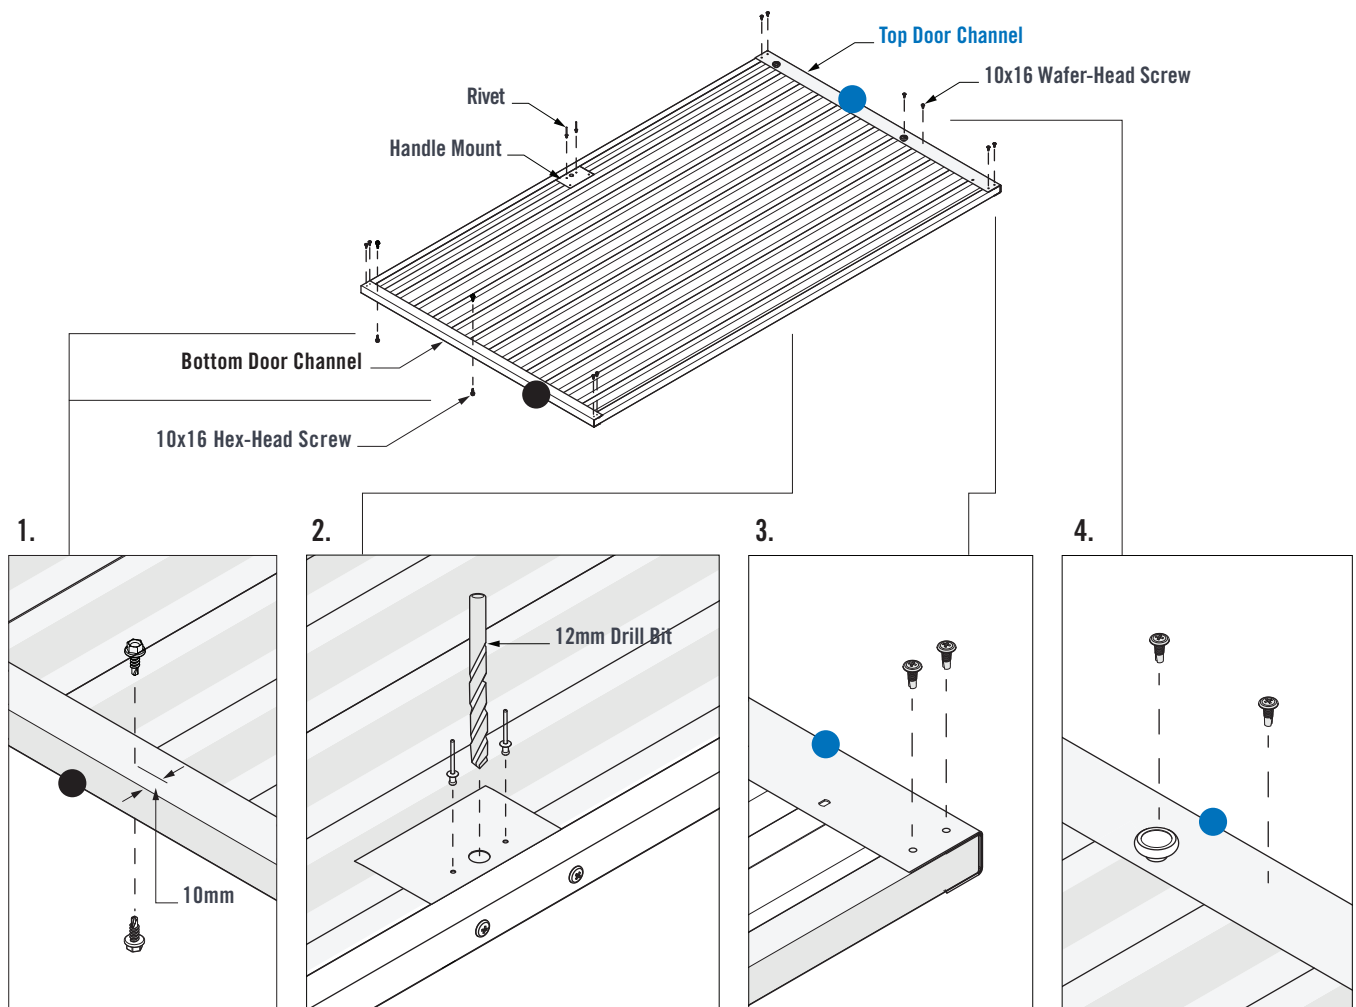

FIGURE 5.6
1. Fasten a 10x16 Hex-Head Screw into the mid-point of the Bottom Door Channel. Ensure the screw is fastened approximately 10mm from the bottom face of the Channel. Fasten a 10x16 Hex-Head Screw near the Handle Mount end of the Bottom Door Channel. Flip over the Door Assembly so that the underside is now facing up. Fasten two more 10x16 Hex-Head Screws in the same manner on the opposite side of the Bottom Door Channel (Figure 5.6).
2. Fasten two 10x16 Wafer-Head Screws through pilot holes in the Handle Mount and into the Door Sheet. Using the holes in the Handle Mounts as a guide, drill a $\varnothing 3.5\text{mm}$ pilot hole, then $\varnothing 12\text{mm}$ hole through the Wall Sheet (Figure 5.6).
3. Fasten two 10x16 Wafer-Head Screws through pilot holes in the Top and Bottom Door Channels and into the Vertical Door Channels at all four corners (Figure 5.6).
4. Fasten a 10x16 Wafer-Head Screw through the Top Door Channel and into the two Sheet Crests on both sides of the Door Wheel (Figure 5.6).